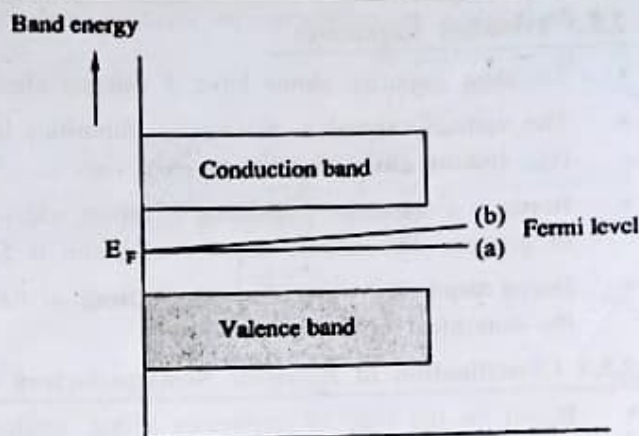

FIG. 2.9 : VARIATION OF FERMİ LEVEL
- The variation of Fermi level with temperature for an intrinsic semiconductor is shown in Fig. 2.9.
- At $T = 0\text{ K}$, the Fermi level lies exactly in middle of forbidden gap as shown in Fig. 2.9(a).
- If, there is a small variation in E_F in the high temperature region. (See Fig. 2.9(b))